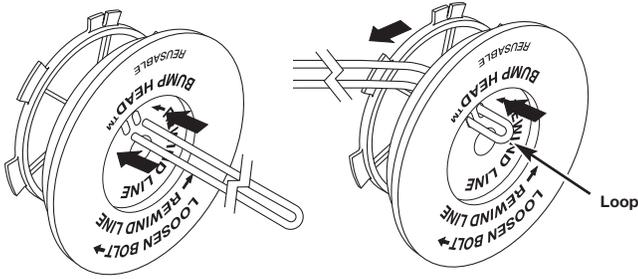

Fig. 30
- Take approximately 18 feet (6 m) of new trimming line, loop it into two equal lengths. Insert each end of the line through one of the two holes in the inner reel (Fig. 30). Pull the line through the inner reel so that the loop is as small as possible.